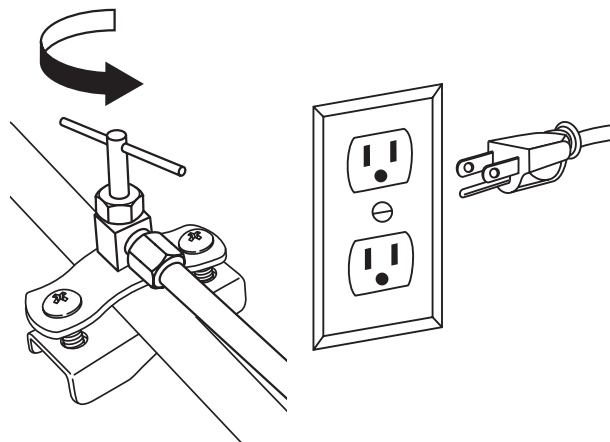

Figure 11
4. Insert the electrical plug for the combined refrigerator/freezer into the electrical outlet (Figure 11).